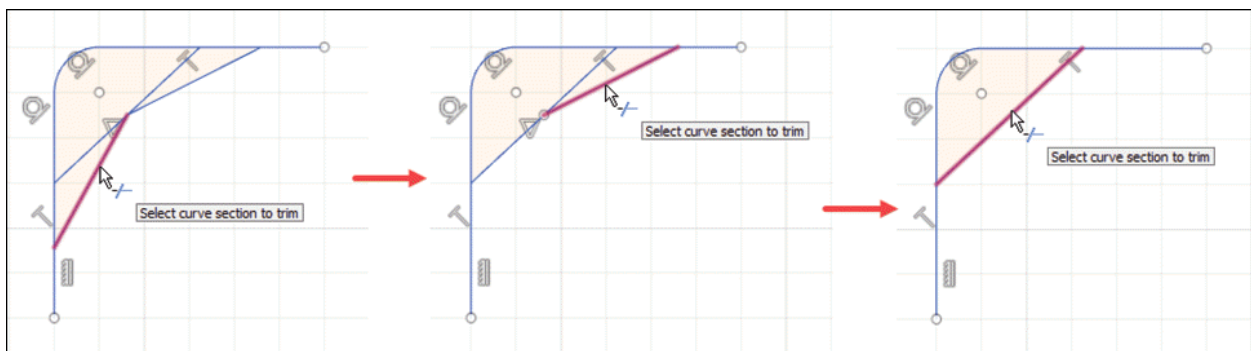

Figure-79. Procedure of trim tool
- Click on the entity to trim. You can also trim multiple entities by clicking on them. Figure-79 shows the procedure of trimming.